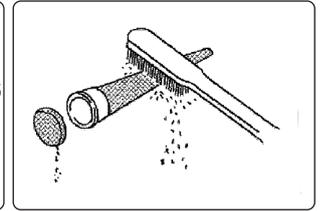

fig.21
- 7.5.3. Clean the carbon deposits on the muffler screen and spark arrester using a wire brush fig.21. When cleaning use the wire brush gently to avoid damaging or scratching of the muffler screen and spark arrester.